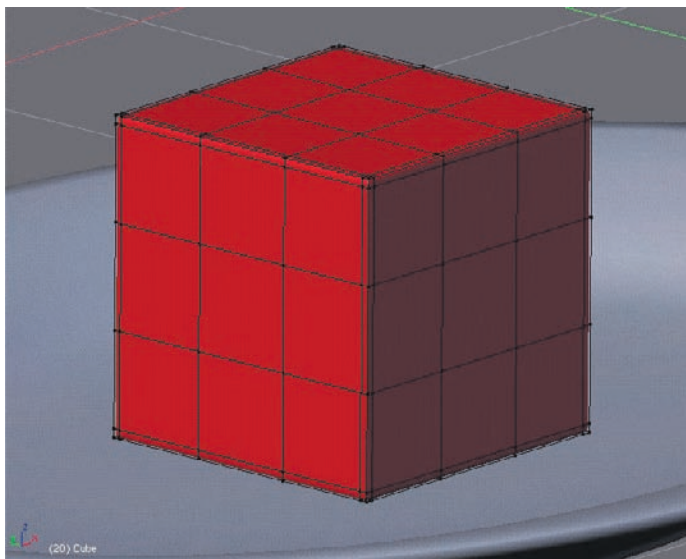

Figure 3.52 A simple cube of gelatin
1. I modeled a simple cube of gelatin by subdividing the default cube (see Figure 3.52). In Edit mode, press the W key and select Subdivide Multi and use a value of 2. I used the Loop Cut tool (K key) to cut loops around the edges of the cube in each direction, as a simple bevel to keep the cube shape after adding a Subsurf modifier. I added a Subsurf modifier, set Levels to 2 and Render Levels to 3, and clicked Set Smooth in the Edit Buttons area.